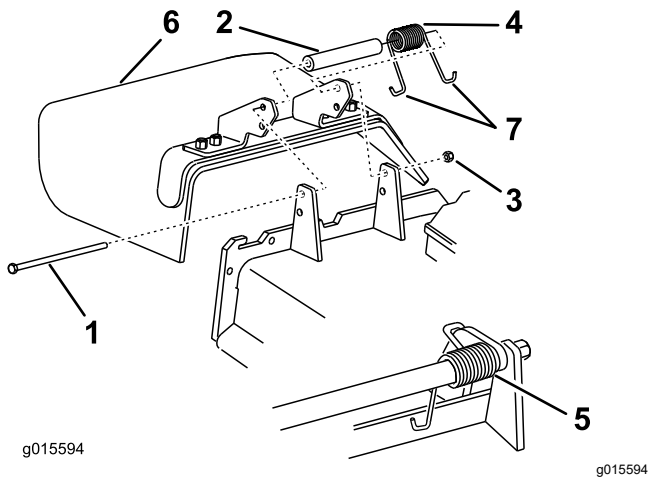

Figure 92
1. Remove the locknut, bolt, spring, and spacer holding the deflector to the pivot brackets (Figure 92).
2. Remove the damaged or worn grass deflector (Figure 92).
Note: Make sure that 1 J-hook end of the spring is installed behind the deck edge before installing the bolt as shown in Figure 92.
6. Place 1 J-hook end of the spring around the grass deflector (Figure 92).